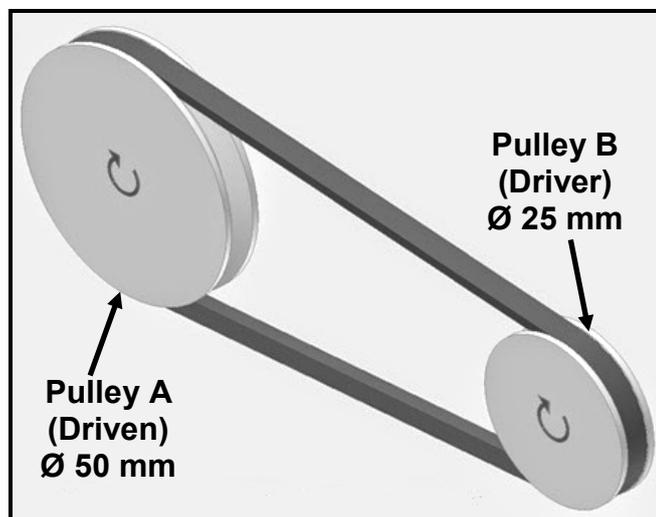

FIGURE 1.6
1.17 What will the rotation frequency of pulley **A** be if pulley **B** is rotating at 1 000 r/min, as shown in FIGURE 1.6?